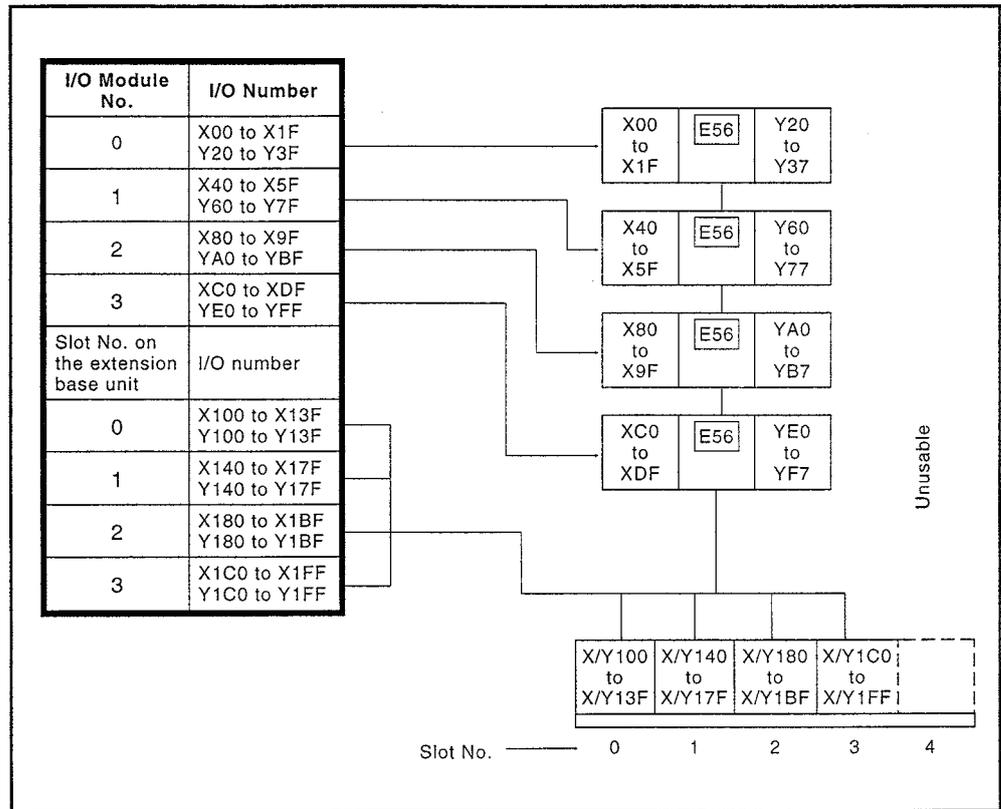

Fig. 4.4 Example of I/O Allocation (2) (with an extension base unit)
(2) Fig. 4.4 shows an example of I/O allocation when the A0J2H I/O modules and an extension base unit are used.